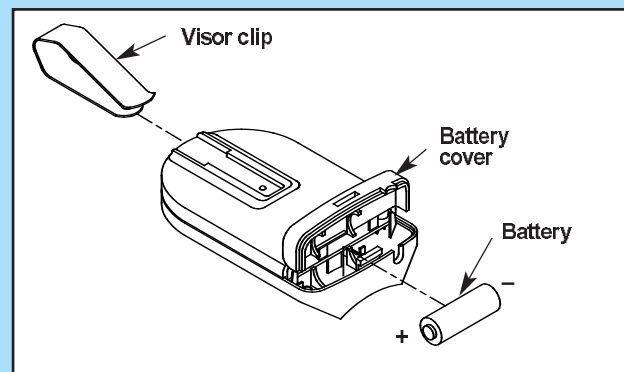

Fig. 10-2
3. **Attach visor clip to remote control (Fig. 10-2)**